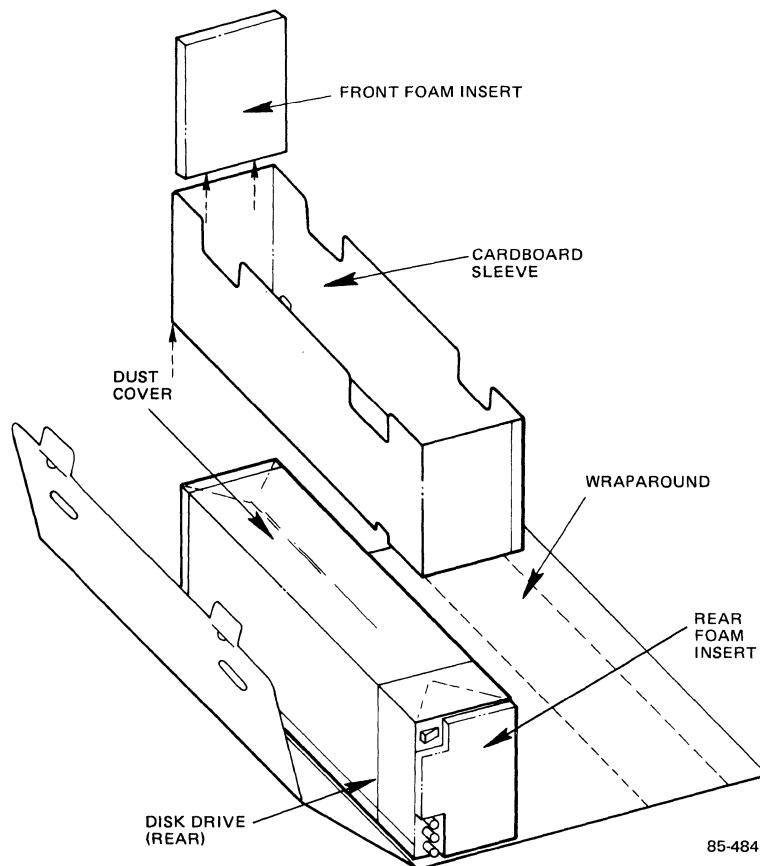

Figure 2-6. Removing the Wraparound
11. Open the wraparound and remove the internal cardboard sleeve, the front and rear foam inserts, and the plastic dust cover (see Figure 2-6).